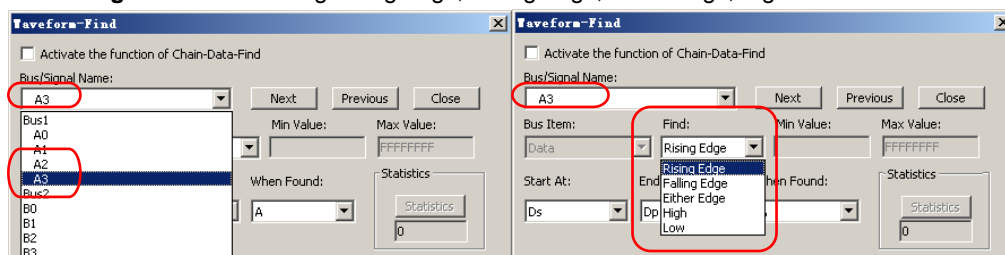

Fig 3-125: Waveform-Find Dialog Box of the Logic Signal
**Step3.** Choose the character for Find. The list of characters depends on whether it is a Bus, Signal, or the protocol analyzer such as I2C, UART, SPI, etc., which is being searched (See Figs 3-125, 3-126, 3-127, 3-128, 3-129, 3-130, 3-131, 3-132 and 3-133).